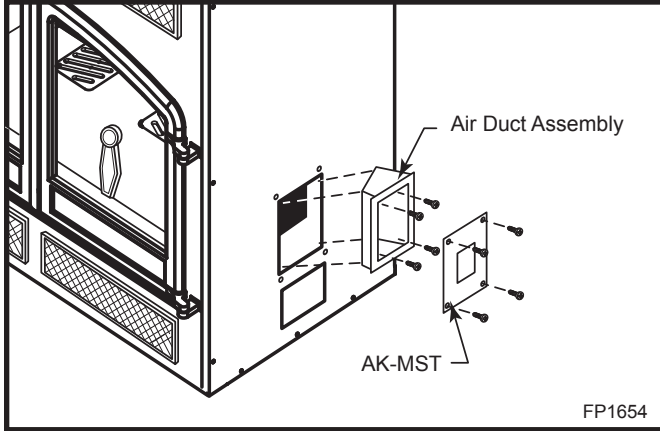

Fig. 14 Air duct assembly.
NOTE: Air duct assemblies must be installed in conjunction with the AK-MST or cold air will enter the home. (Fig. 14)
2. Slide the two (2) air duct assemblies provided with the unit into the openings on each side of the unit. (Fig. 14)
3. Attach the air duct assemblies to the inside panel with four (4) screws removed in Step 1. (fig. 14)